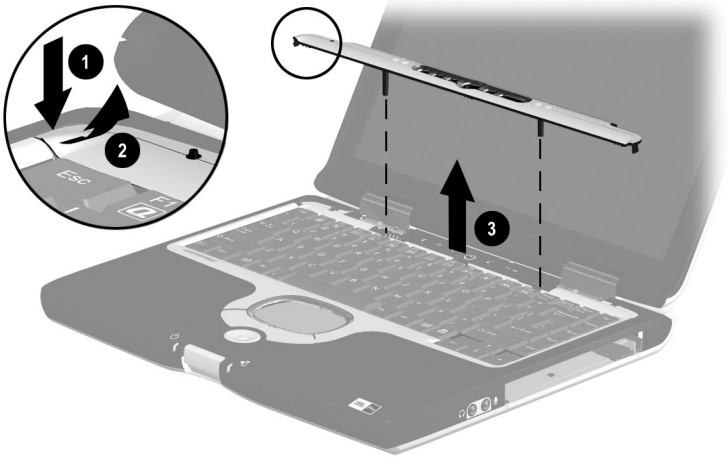

Figure 5-13. Removing the LED Cover
6. Press the **ESC** key to reveal the notch ❶ in the LED cover (Figure 5-13).
7. Insert a flat-bladed tool in the notch and lift the left side of the LED cover ❷.
8. Remove the LED cover ❸.